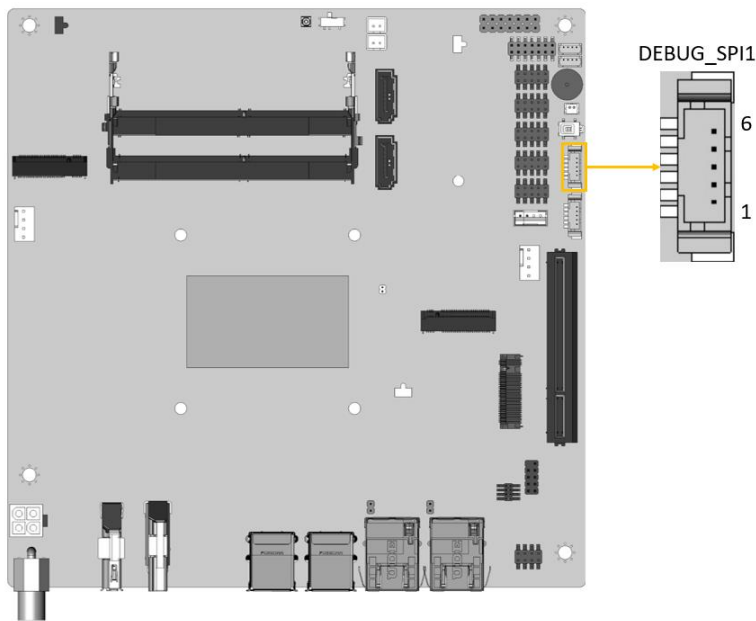

Figure 3-24: EC debug Connector Location
- CN Location:** See **Figure 3-24**